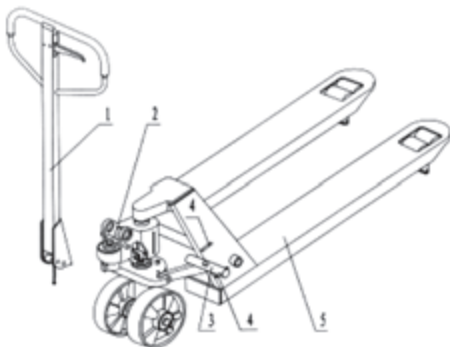

Fig. 1
- 2.3 Push handle down and remove retainer pin #2 (see Fig. 1).